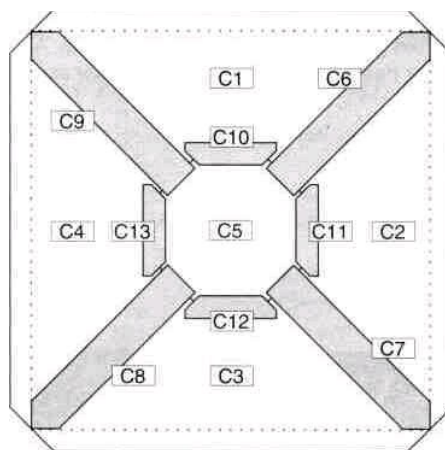

Fig. 3: Base panel
The base panel has glue tabs on all four sides. It is formed from four trapezoidal parts [C1 to C4] and the octagon that was removed from the front wall [C5]. These five parts are glued together on their rear side with the help of eight connecting pieces (see Fig. 3). All parts, including the connecting pieces, are black on the side facing the interior of the housing.
Step 11: Put the octagonal base panel [C5] with its black side facing upwards in its space, so that one of the narrower glue markings is under the protruding end of the connecting piece and all edges abut against each other without gaps. Then glue it to the connecting piece. Now add the other base panels in the same way, using the large connecting pieces, and finally glue the small connecting pieces onto the remaining free edges of the octagon (see Fig. 3).